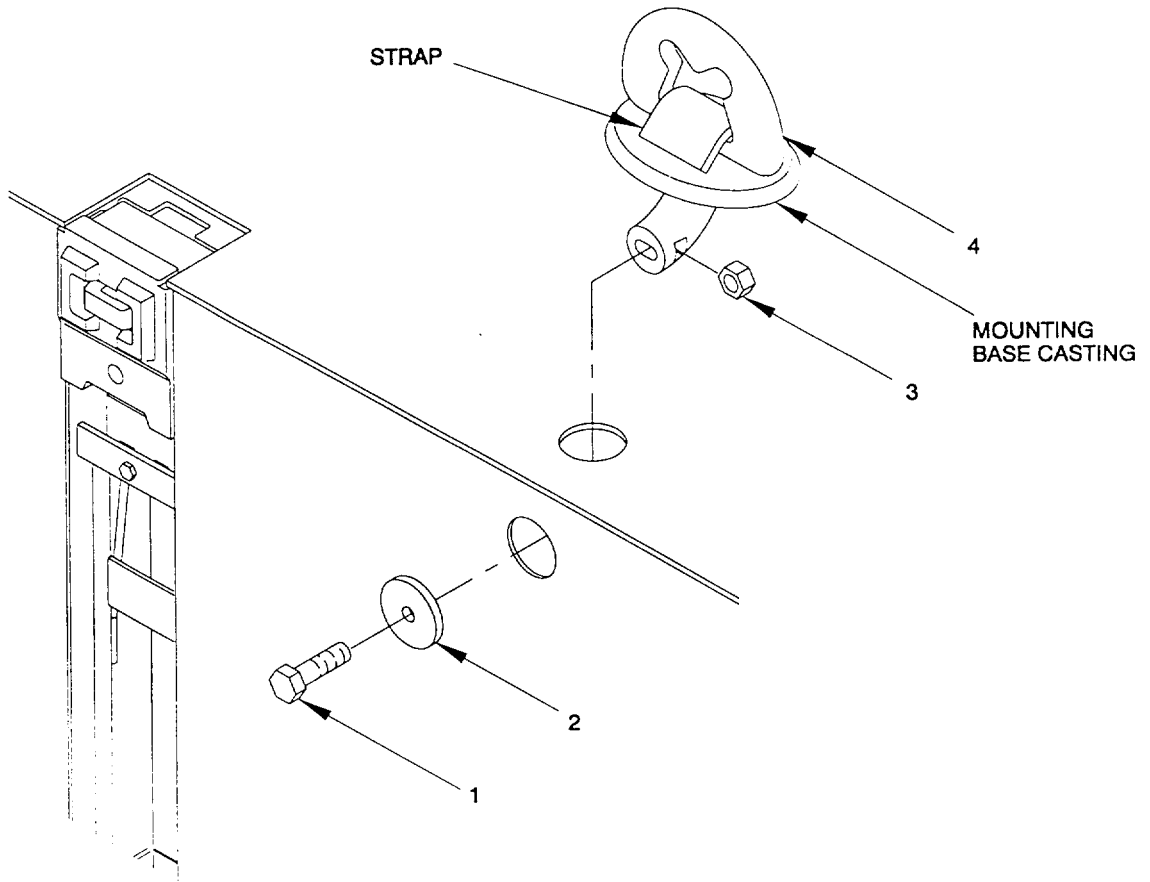

Figure 2-164. Mooring D-Ring. Remove/Install.
a. Remove. (figure 2-164)
- (1) Remove hex head bolt (1), keeper plate (2) and hex nut (3).
- (2) Remove D-ring weldment (4) from deck.
c. Install. (figure 2-164)
- (1) Position D-ring weldment (4) through holes in deck and sides.
- (2) Apply antiseize to bolt (1) prior to assembly.
- (3) Position hex nut (3), keeper plate (2) and secure with hex head bolt (1).